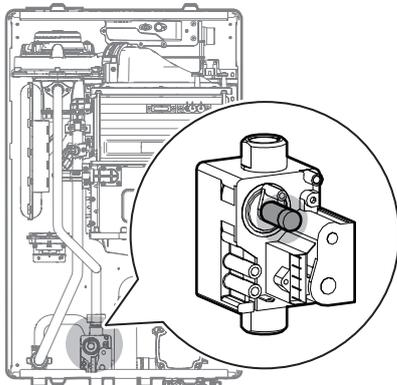

Figure 11. Set screw location
- c. Fully open a hot water outlet fitting and set the boiler to operate at 1-stage MIN mode (refer to table 2 for information about setting modes). Measure the offset value at a low flame setting and compare it to the values in Table 3. If the offset value is outside the range, adjust the gas valve set screw. If set screw adjustment is required, locate the set screw as shown in Figure 11. T 15 Torx wrench to turn the set screw no more than a 1/4 turn clockwise to increase or anticlockwise to decrease the offset value.